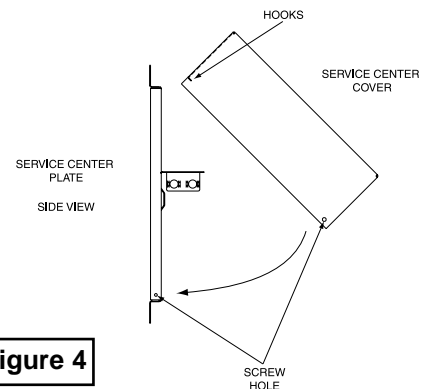

Figure 4
8. Cover Installation (optional) - See Figure 4